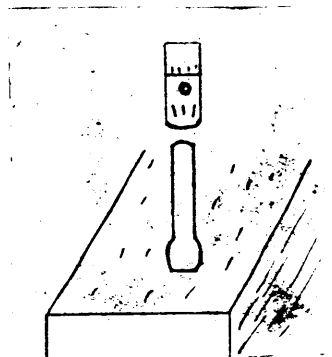

Figure 14.
9. In heating long and heavy pieces of stock where it requires the use of hands to hold the stock, it is necessary to place the heated end on the face of the anvil. (Figure 14) Otherwise heated fragments may burn hands.